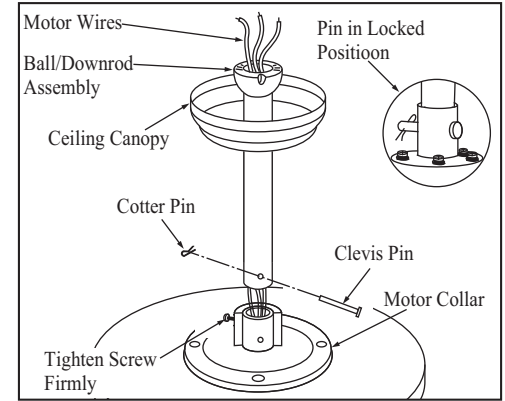

Figure 6
2. Route the wires through the canopy and then through the ball/downrod assembly. (Figure 6.)
4. Align the holes at the bottom of the downrod with the holes in the coupling on top of the motor housing. (Figure 6) Carefully insert the clevis pin through the holes in the collar and downrod. Be careful not to jam the clevis pin against the wiring inside the downrod. Insert the cotter pin through the hole near the end of
the clevis pin until it snaps into its locked position, as noted in the circle inset of Fig. 6.
5. Tighten two set screws on top of the fan motor firmly. (Figure 6)